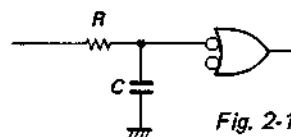

Fig. 2-14
4. The connection of Fig. 2-14 is used for eliminating any narrow pulses superimposed on the input or for obtaining short delays of the rising and falling edges, etc. This circuit is very useful in preventing the oscillation of the entire system (racing), or for preventing chattering of the inputs, etc.